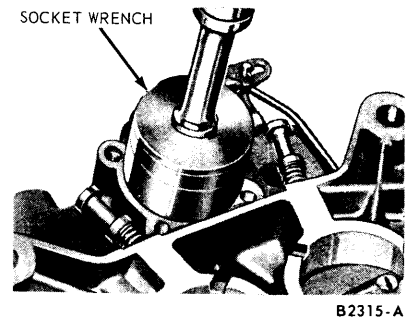

FIG. 22—Power Valve Removal or Installation
8. Invert the main body and remove the power valve cover and gasket. Using a box wrench, remove the power valve and gasket (Fig. 22).
8. Invert the main body. Using a socket wrench, install the power valve and gasket (Fig. 22). **Tighten the power valve securely.** Install the cover and gasket.